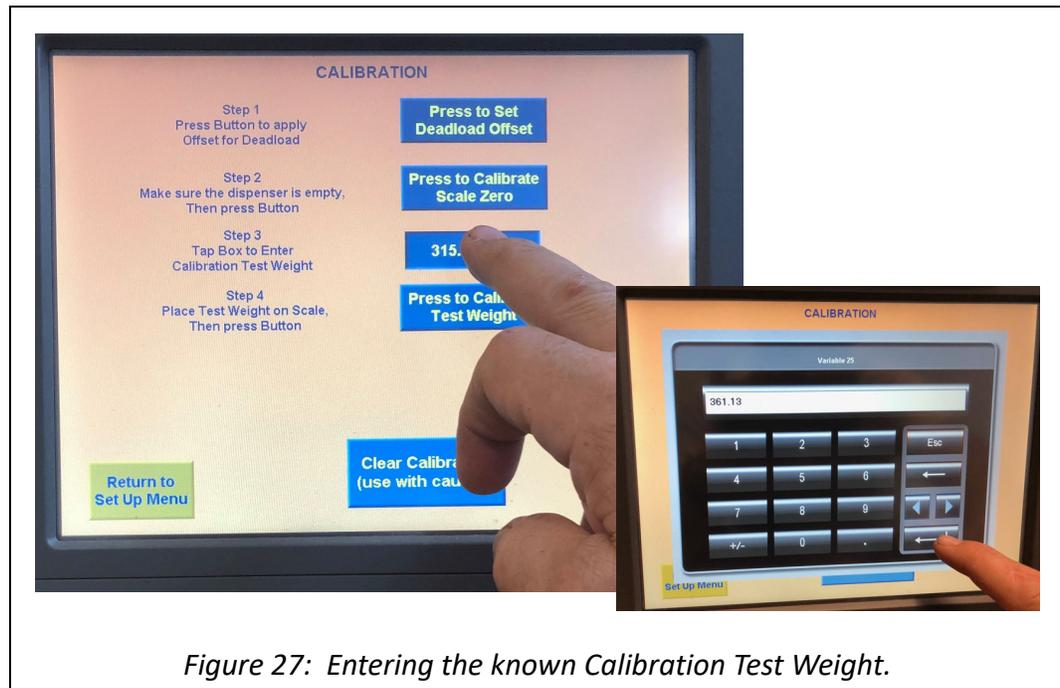

Figure 27: Entering the known Calibration Test Weight.
9. Touch the box for Step 3 and enter the known “Calibration Test Weight” (determined in “Equipment and supplies needed” on page 46), then touch the *Enter* symbol (see Figure 27).